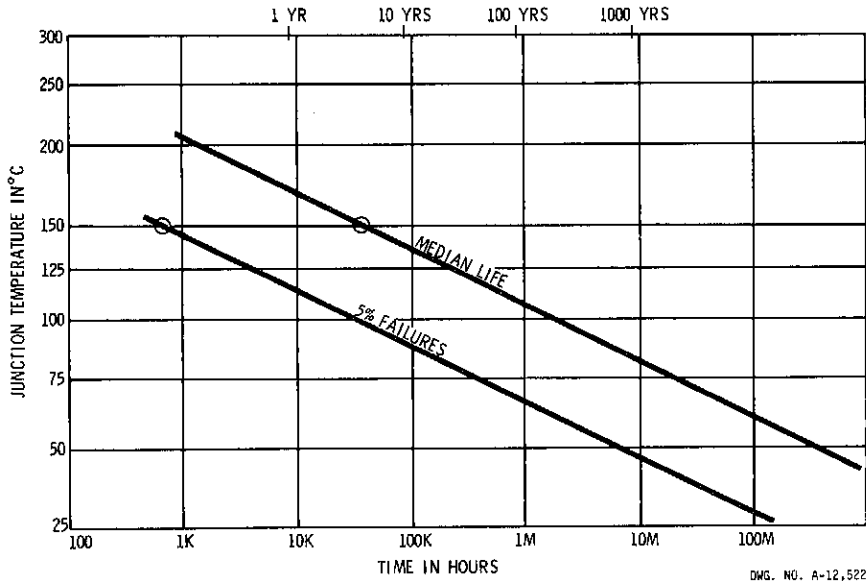

Figure 2
The median life-point is drawn on Arrhenius graph paper in Figure 2. The Arrhenius plot gives a graphical solution, rather than a mathematical solution, to the problem of equivalent median lifetime at any junction temperature. A line is drawn through this point (or points when multiple temperatures are used) with a slope of $\epsilon = 1.0$ eV.
Although not as statistically accurate as the median lifetime, the 5% fail-point can be read from Figure 1 and plotted parallel to the median-life line in Figure 2.
The median life at reduced junction temperatures can now be determined using Figure 2. It must be emphasized that this is junction temperature and *not* ambient temperature. The temperature rise at the junction due to internal power dissipation must be taken into account using the formula:
The median lifetime, or 50% fail-point, as graphically determined in Figure 2, is approximately 22 years at +125°C or 190 years at +100°C junction temperature.
The approximate failure rate (FR) may be determined from $FR = 1/\text{Median Life}$, where Median Life is taken from Figure 2 at the intersection of the junction-temperature line and median-life line. The actual instantaneous failure rate can be calculated using a Goldwaite plot.⁴ However, this approximation is very close. At +100°C the failure rate would be:
Figure 2 shows that a design with a continuous operating junction temperature of +100°C (internal power dissipation plus external ambient temperature) would reach the 5% failure point in 3.8 years.